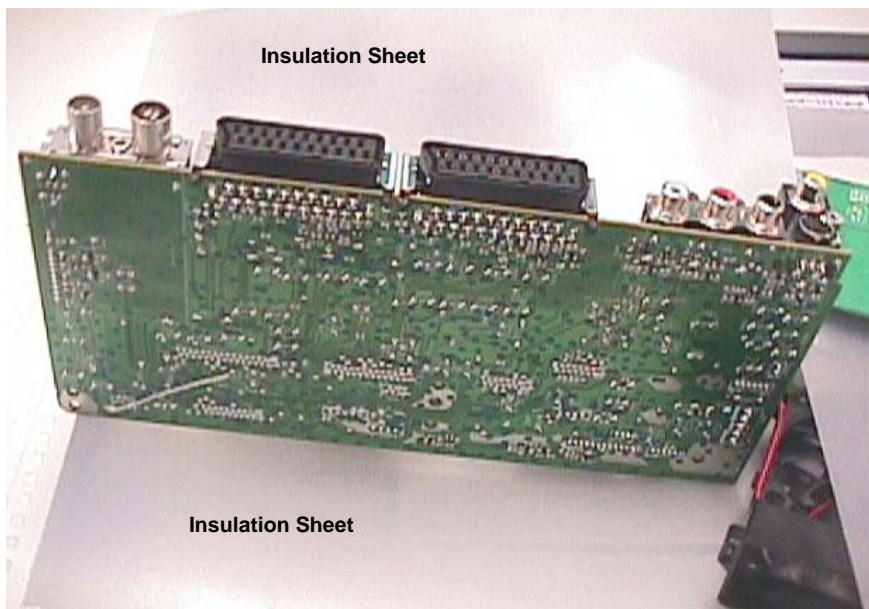

Figure 12- Analogue Board Service Position (Rear Panel 230 detached)
- 2) Remove 3 screws that attach the Analog Board 1001 to the Frame 161. Remove 6 more screws that attach the Analog Board 1001 to the rear panel 230. Detach the rear panel 230 by removing 3 more screws. Then dismantle the Analog Board. Service position for Analogue Board is given in Figure 12.